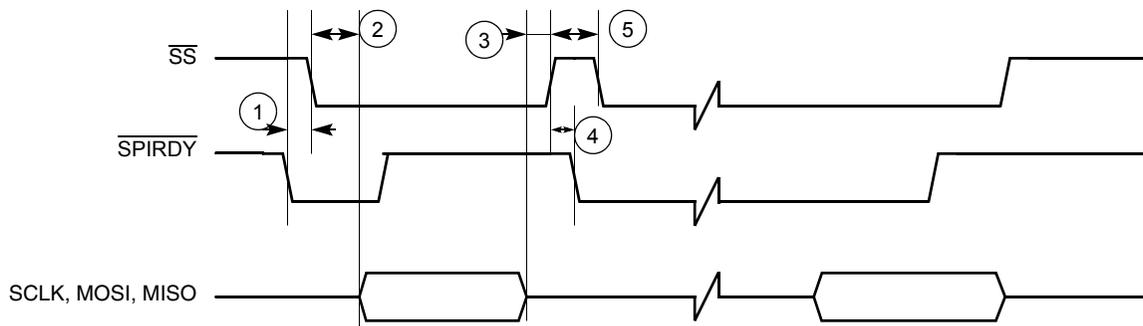
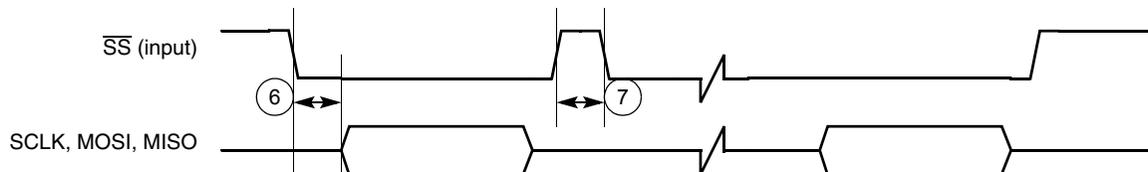

Figure 35. Master SPI Timing Diagram Using  $\overline{\text{SPI\_RDY}}$  Edge Trigger
Figure 39. Slave SPI Timing Diagram FIFO Advanced by  $\overline{\text{SS}}$  Rising Edge
**Table 20. Timing Parameter Table for Figure 35 through Figure 39**